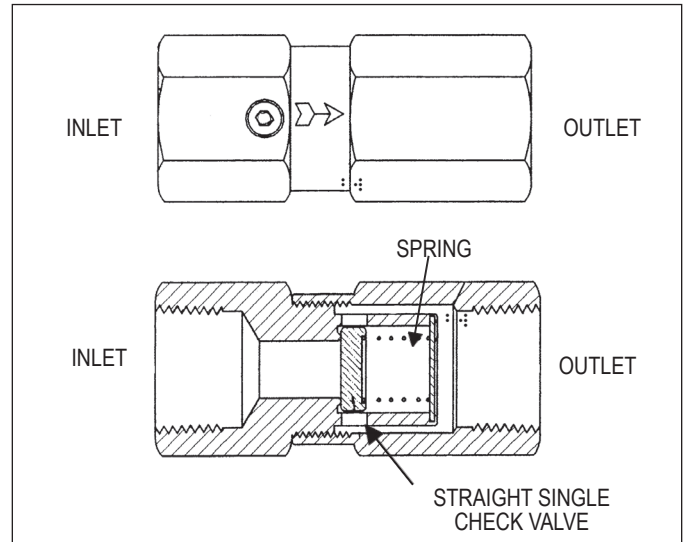

FIGURE 2 - STRAIGHT SC-3 SINGLE CHECK VALVE (EXTERIOR/CROSS-SECTIONAL VIEWS)
1. Straight (wafer-type) single check valve (See Figure 2).